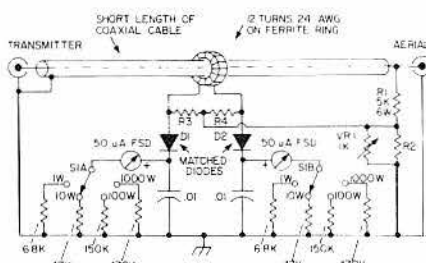
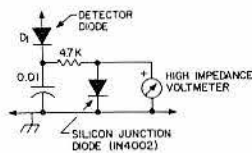

Fig. 1. Circuit of the basic frequency-dependent directional wattmeter due to G3TGD. The two meters indicate forward and reflected powers.
Fig. 5. Basic wide-range logarithmic converter.
M. B. Allenson G3TGD, has designed a wattmeter using the above principles, where the low resistance in the current transformer secondary circuit is split into two equal parts. The center connection is taken to the voltage sampling point so that sum and difference voltages are available at the ends of the transformer secondary winding, see Fig. 1.
Maximum sensitivity with a 50  $\mu$ A meter is less than five milliwatts, but with the multiplier resistors specified in Fig. 1, full scale deflection corresponds to power of 1, 10, 100 and 1000 watts. Calibration is non-linear, because the instrument samples
It is simple to add a reasonably accurate wide-range logarithmic network to the meter in Fig. 1 (see Fig. 5). The basis of its